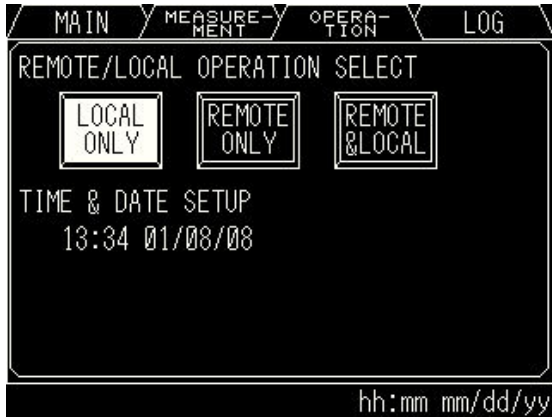
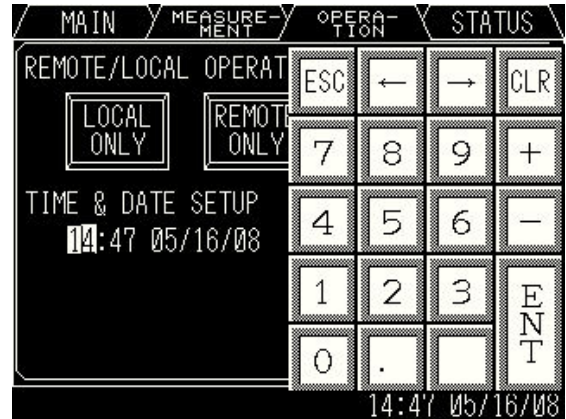

Figure 4-9 Remote/Local operation select
Figure 4-10 Date & Time adjustment
C) OPERATION MENU (Figure 4-9 to Figure 4-10)